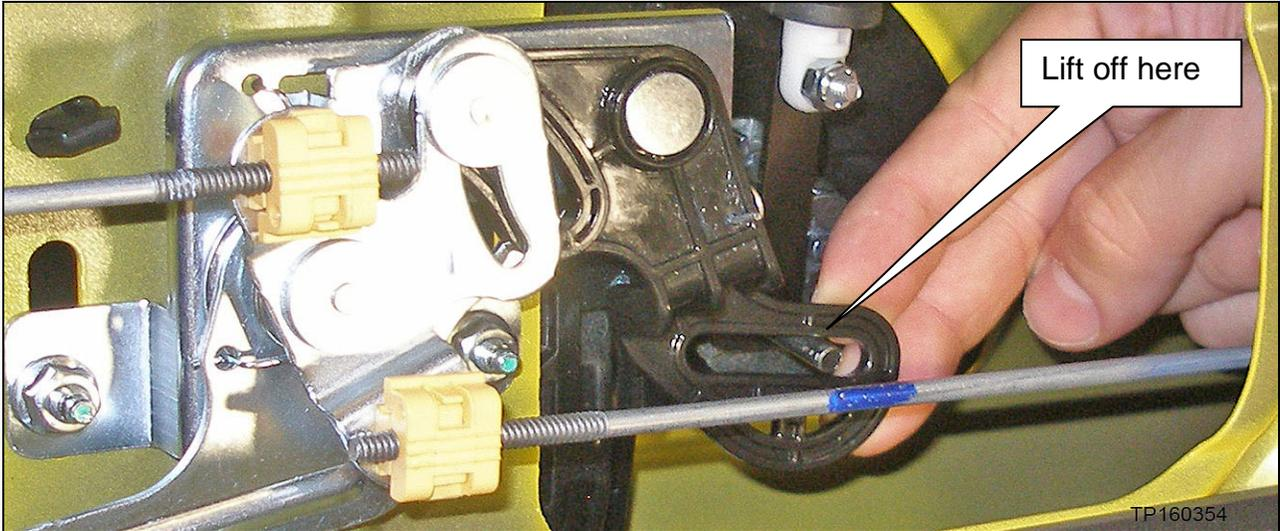

Figure 7
a. Lift the latch arm off the pin as shown in Figure 7.